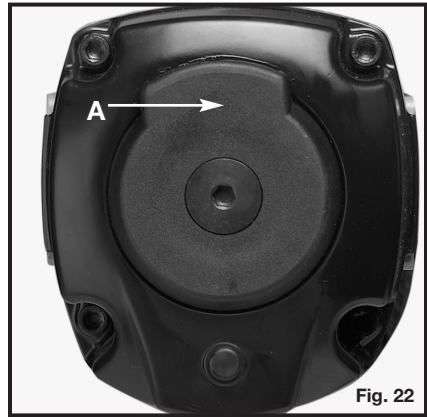

Fig. 22
6. Adjust directional exhaust deflector (A) Fig. 22, so that the exhaust air blast will be directed away from the operator. The exhaust deflector provides eight detented positions for directing the exhaust blast away from the operator. Grasp the deflector and rotate it to the desired position for the current application.